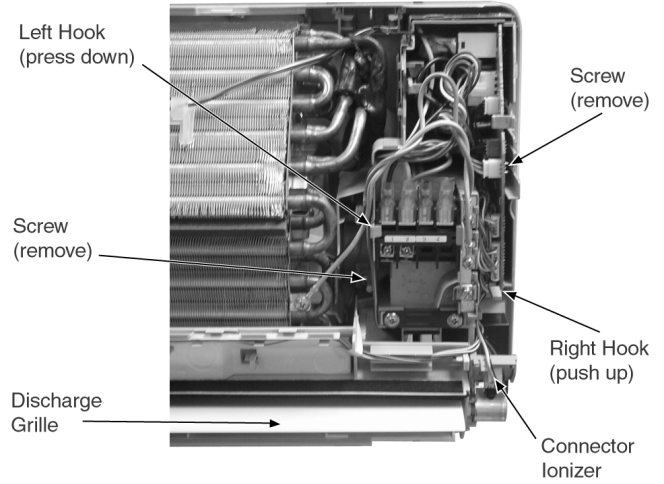

Fig. 5
- Pulling out the Drain Hose from outlet to remove the Discharge Grille. (Fig. 5)
- Removing the right and left screws. (Fig. 5)
- Then remove the Control Board by pressing down the hook at the left and pushing up the right hook. (Fig. 5)
- Releasing connector lead wire lonizer. (Fig. 5)